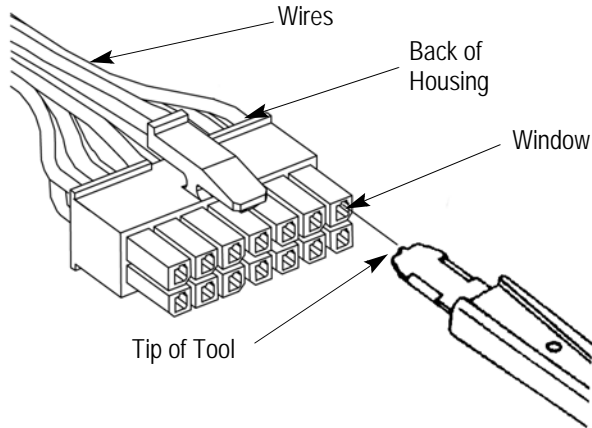

Figure 2
**3. USING THE TOOL** (See Figure 2)